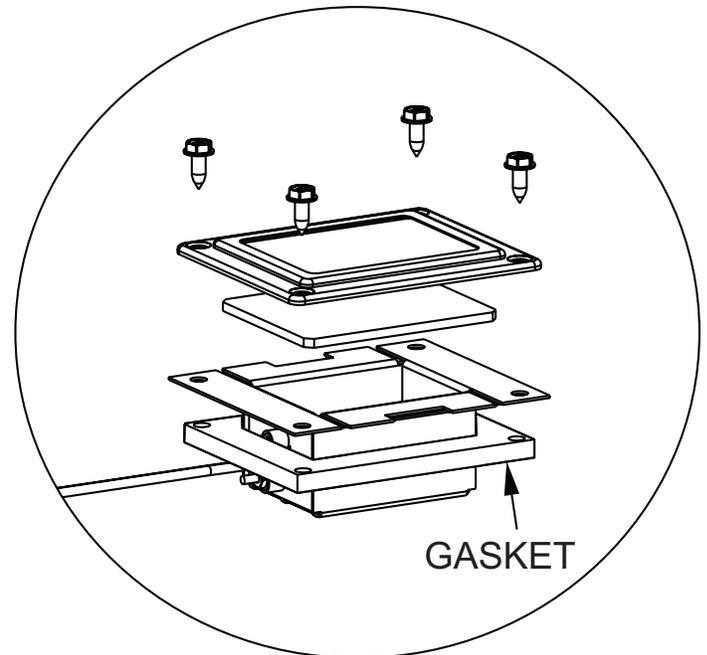

Figure 4
4. Install the two Accent Light Assemblies as shown in **Figures 4 and 5**. The left assembly's wires should be left, and the right assembly's wires should point right.